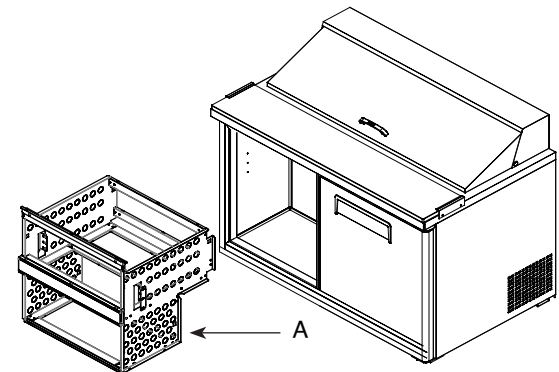

Figure 2
2. Insert the drawer frame (A) into the cabinet. Pay special attention to ensuring that the center mullion is flush with the cabinet frame. Refer to Figure 2 for details.